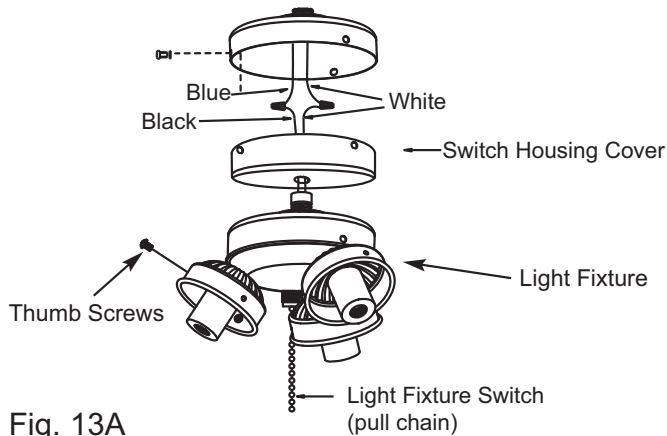
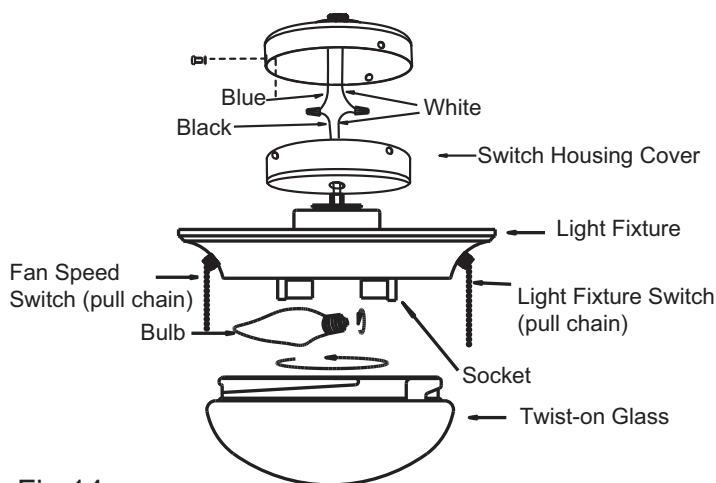
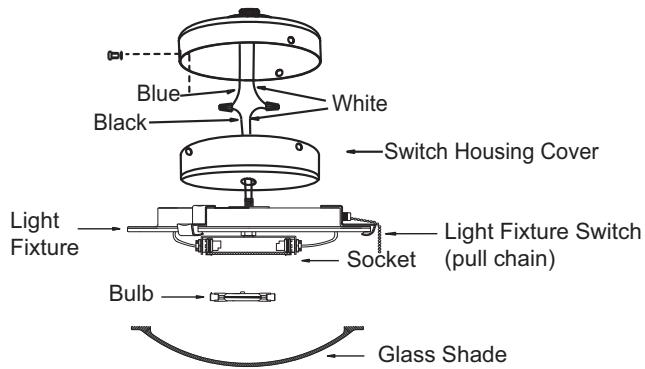

Fig. 13A
Fig. 14
Fig.15A
Depending on which model of Avia fan you are installing, you will either have the 4 light Turtle Cluster (figure 13A-13B) or the Twist-on Light (figure 14) or the Bowl Light (figure 15A-15C). Please follow instruction under the correct light fixture.
Back off (loosen) the three screws on the switch housing cover (see figure 13A)
Install light bulb (Max. 60W B10 bulb * 2pcs) into socket (see figure 14).
A. Install light bulb (Max. 100W halogen bulb * 1pc) into socket (*see figure 15A*).